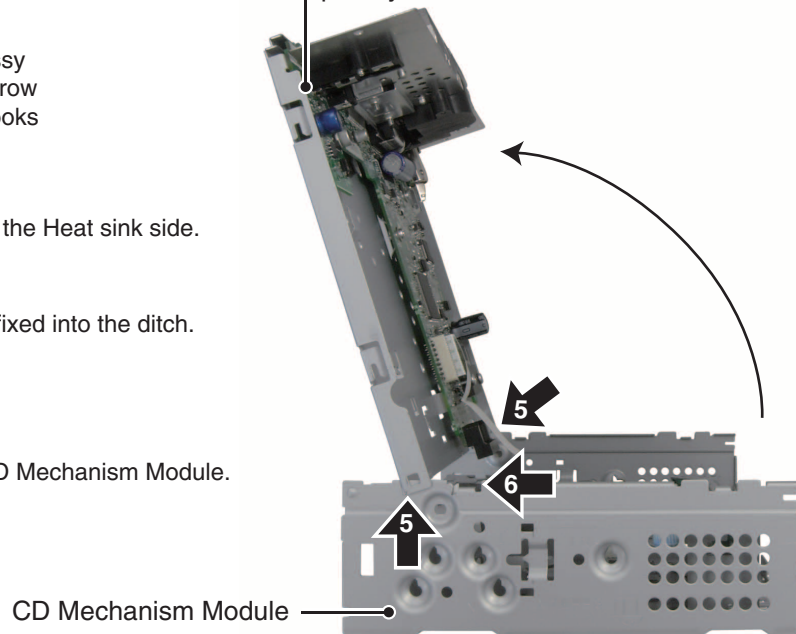

Fig.4
5. Lift the PU unit to disengage it from Part B of the chassis (Fig 4), and remove the PU unit.
(Cautions) When re-installing the PU, be sure to first nip the chassis and the PU unit (Fig 4) at the position B.